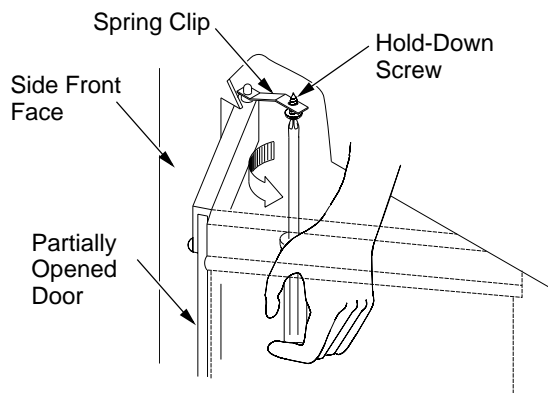

Figure 36 - Adjusting Glass Doors
- To adjust the doors, slide them partially open. Using a screwdriver, loosen the hold-down screws in the spring clip (see Figure 36) and pivot plate.